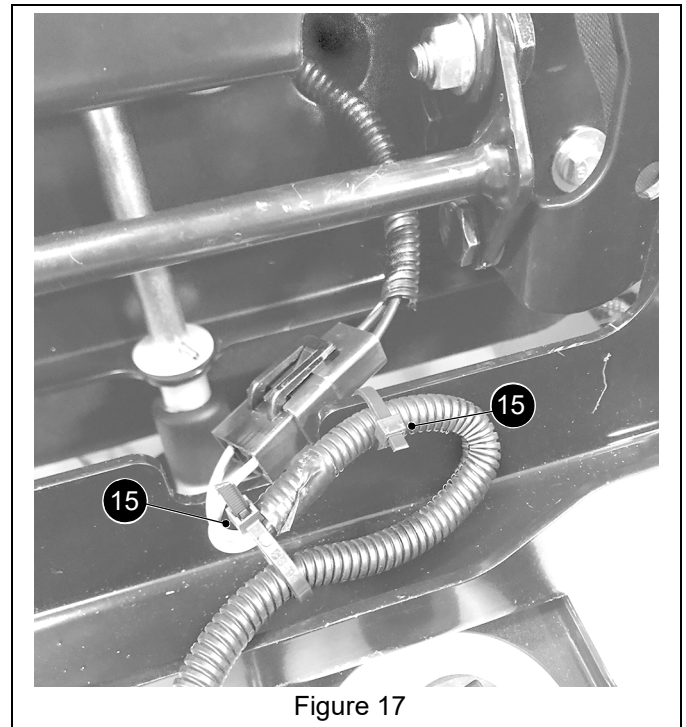

Figure 17
13. Connect seat switch to harness extension and secure harness with two cable ties (item 15). See Figure 17.